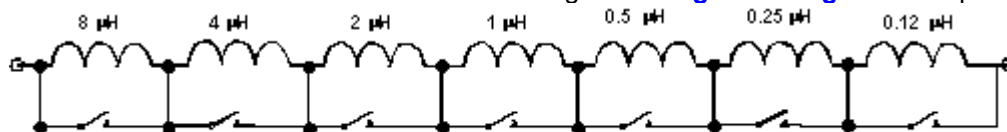

Figure 9
L1 has to have slide contact to operate the MU in proper way. Sometimes, even extra half of a turn influences to the matching. It restricts usage of an inductor with taps, or demands personal selection taps for real antenna, that certainly, restricts possibilities “tap” MU. Simple decision on this problem by W3TS made, he offered a “digital” inductor that Fig. 9 shows. Really, it is possible with the help of several switches very fine to tune needed inductance. Electronic relays with special chips allow realize automatic ATU. Military also use the method at their automatic ATU.
**Tab. 3** Data for digital inductor shown in Fig. 9
The design data for spools for digital inductor shown on **Fig. 9** are shown in **Tab. 3**. Significant RF-currents flow through parts of MU - capacitors, inductors, and switches. So all of the parts should be qualitative.